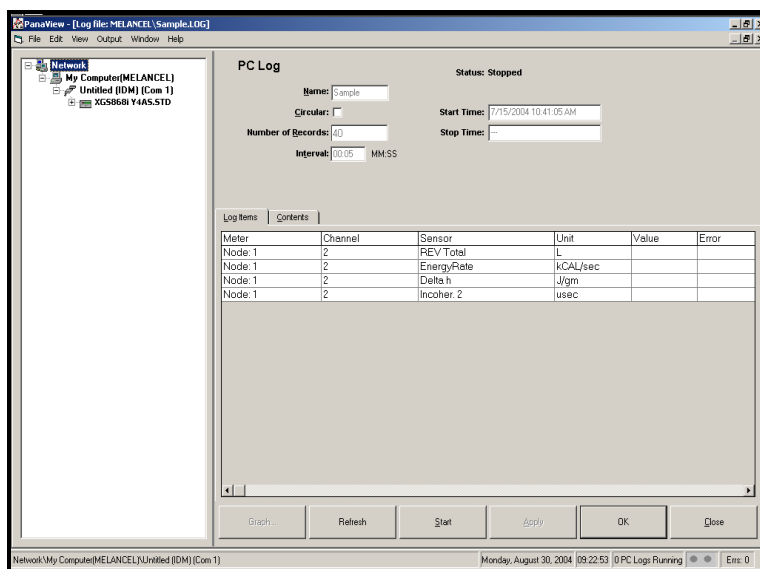

Figure 3-9: The PC Log Window
6. At the resulting *PC Log* window shown in Figure 3-9 below, place a check mark in the text box to create a *circular log*, or leave this box empty to create a linear log.
7. Enter a sampling *interval* in the text box shown in Figure 3-9 above.